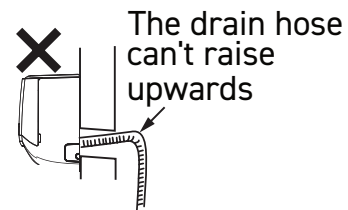

Fig.25
1. The through-wall height of drain hose shouldn't be higher than the outlet pipe hole of indoor unit. (As show in Fig.25)